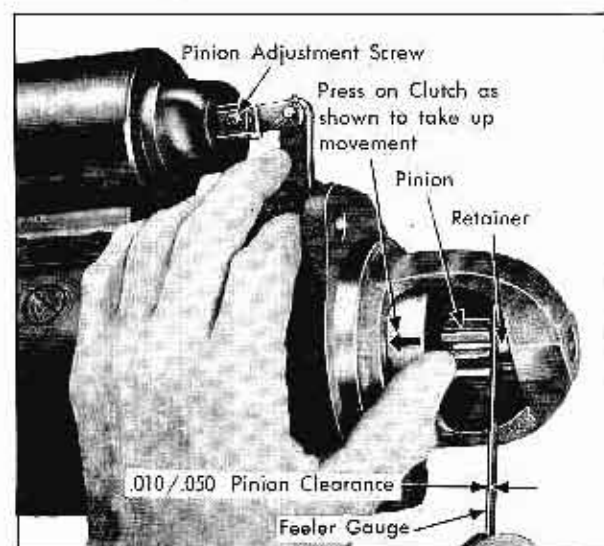

Fig. 11-28 Starter Pinion Adjustment
2. Press on clutch as shown in Fig. 11-28, and take up movement.